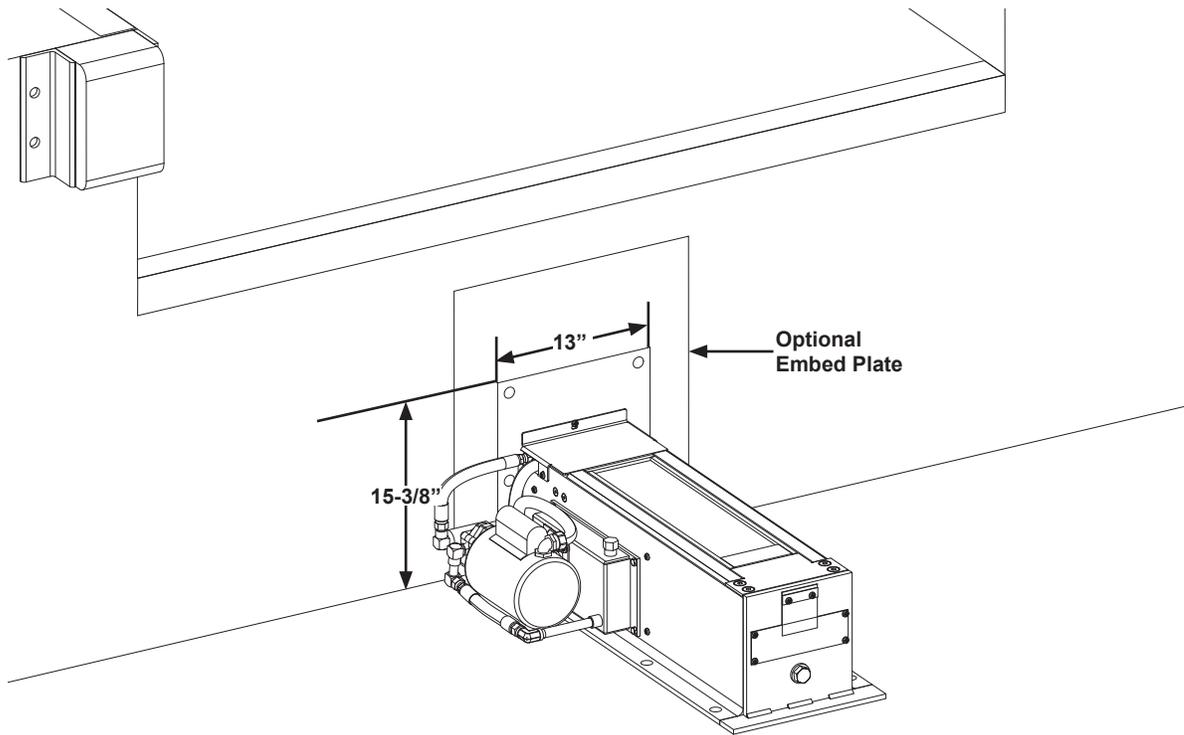

Figure 7
If optional embed plate is present, weld three sides of Hold-Tite back plate to the embed mounting plate with ten (10) 4" long, 1/4" fillet welds. See Figure 7.